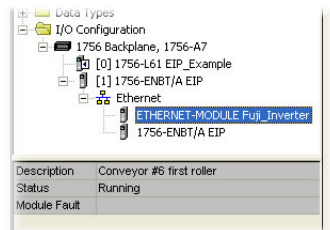

Figure 88: Online Module Status
- 7) Switch to online mode and download the project to the PLC. Verify that the newly-added inverter is available and operating correctly by observing any indications shown on the inverter's icon. When the inverter's icon is selected, its status and any available error messages will be displayed in the area below the project tree. Refer to Figure 88. Also confirm that the interface card's “Network Status” LED should be solid green, indicating an “online/connected” state.